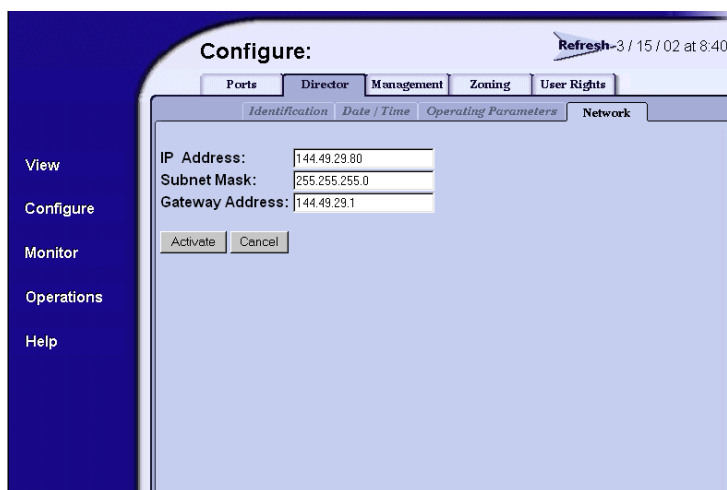

Figure 2-71 Configure Panel (Director Page with Network Tab)
2. At the *Configure* panel, click the *Director* tab, then click the *Network* tab. The *Director* page displays with the *Network* tab selected (Figure 2-71).